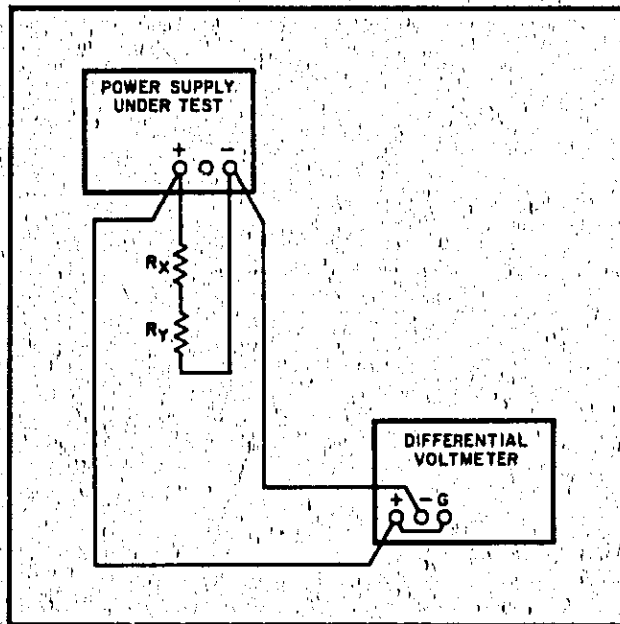

Figure 5-5. Load Regulation, Test Setup
- a. Connect test setup as shown in Figure 5-5.
- c. Connect test setup shown in Figure 5-5.
- Connect test setup shown in Figure 5-5.
- a. Connect test setup shown in Figure 5-5.